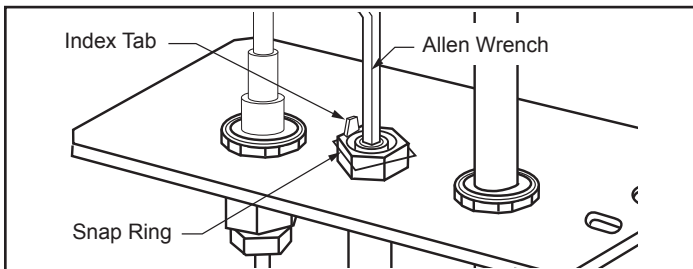

Figure 74 - Remove pilot orifice.
- Remove pilot orifice with Allen wrench, Figure 74.